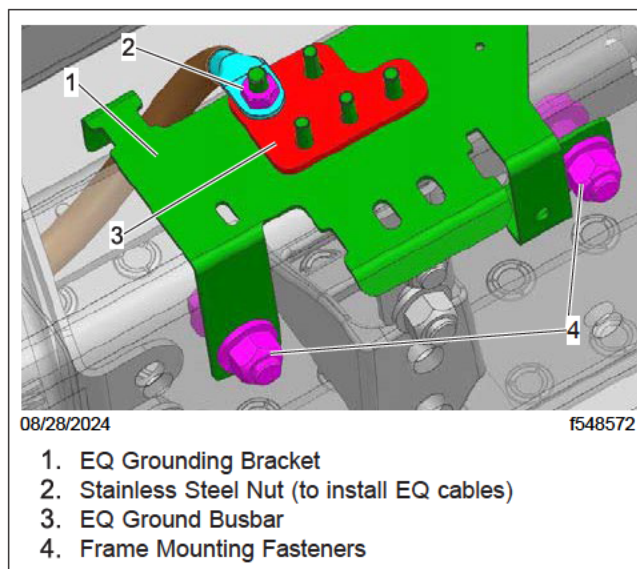

Fig. 7, New EQ Grounding Bracket
19. Install the new EQ grounding bracket (A66-34468-000 and 66-34421-000). See Fig. 7.